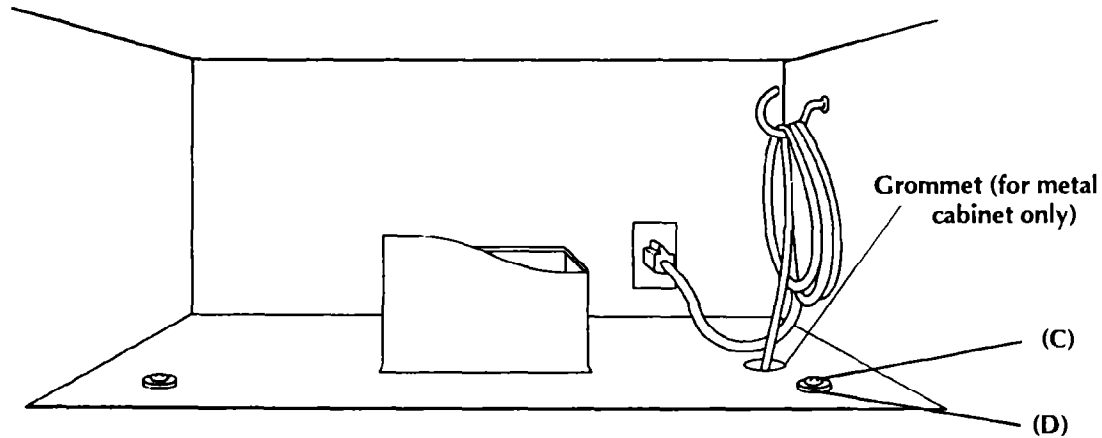

Figure16
8. Use the two top cabinet mounting screws (C) and flat washers (D), supplied in the installation hardware, to attach the unit to the top cabinet. See Figure16. Note: If mounting plates were installed using only toggle bolts, use the adjusting screws to attach the unit to the top cabinet.